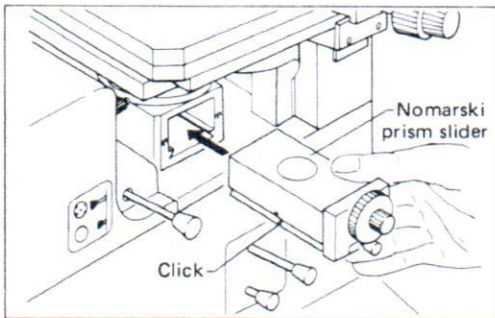

Fig. 3
- ① Remove the covers from the right and left sides under the nosepiece mount.
- ② Insert the Nomarski prism slider as shown in Fig. 3.